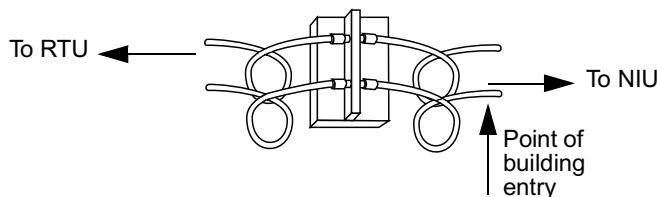

Figure 6. Grounding Block with Drip Loops
7. Attach the cables to the grounding block with drip loops as shown in Figure 6. Use a torque of 271 N-cm (24 in-lbs).